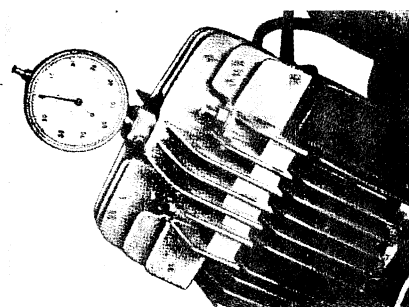

Fig. 21-19 Timing with a dial gauge
3. Measuring piston travel with dial gauge before TDC (Fig. 21-19).